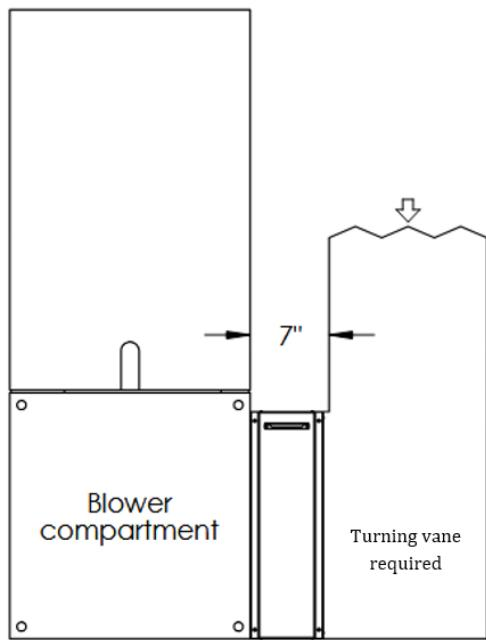

Fig. 1. Highboy furnace with side installation
- Turning vanes are required when a sharp duct turn occurs immediately before cabinet (Fig. 1)